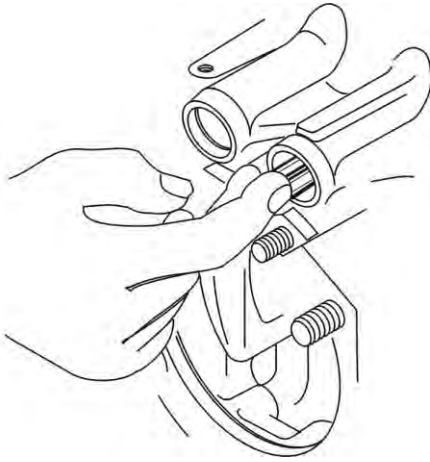
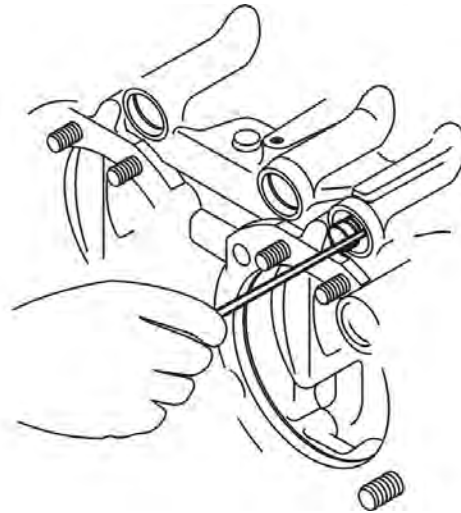

Figure 10
Figure 11
(2) Remove the push rod socket (Figure 10) by placing heavy grease on the ball end of the Tappet Assembly Tool. Push the greased ball end of the Tappet Assembly Tool into the socket and withdraw it. The socket will adhere to the grease.
- (3) Push the hollow end of the Tappet Assembly Tool over the hydraulic tappet plunger and withdraw the plunger.
- (4) Bend a right angle in one end of a piece of wire and insert this end into the space between the plunger assembly and the tappet body. Turn the wire 90° to engage a coil of the spring and draw out the hydraulic tappet plunger assembly. Refer to Figure 11.